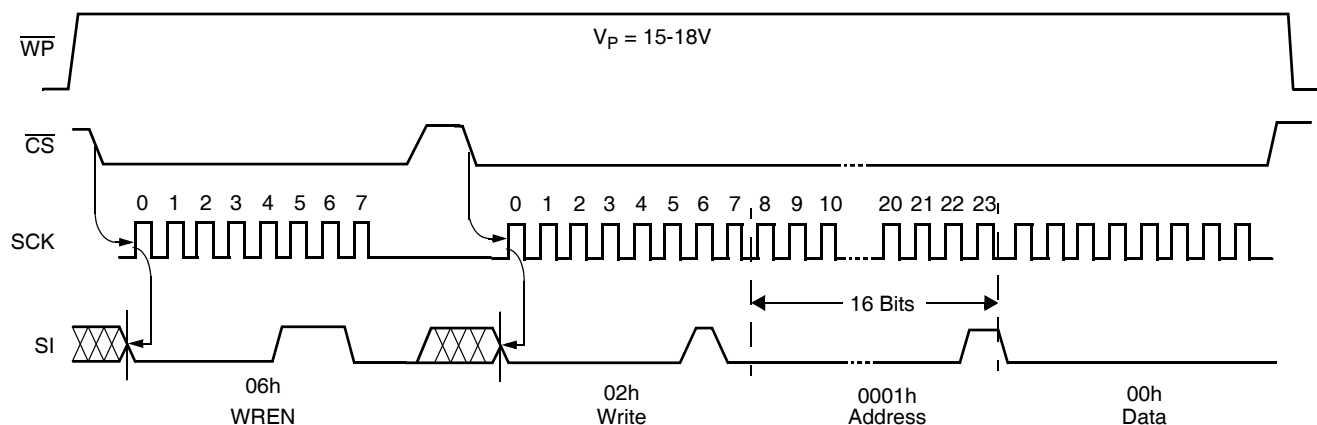

FIGURE 1. SET  $V_{TRIP}$  LEVEL SEQUENCE ( $V_{CC} = \text{DESIRED } V_{TRIP} \text{ VALUE}$ )
0000 0001	Write status instruction—followed by: Block lock/WDT byte: (See Figure 1) 000WD 1 WD 2 000 --->no block lock: 00h-00h--->none of the array 000WD 1 WD 2 001 --->block lock Q1: 0000h-00FFh--->lower quadrant (Q1) 000WD 1 WD 2 010 --->block lock Q2: 0100h-01FFh--->Q2 000WD 1 WD 2 011 --->block lock Q3: 0200h-02FFh--->Q3 000WD 1 WD 2 100 --->block lock Q4: 0300h-03FFh--->upper quadrant (Q4) 000WD 1 WD 2 101 --->block lock H1: 0000h-01FFh--->lower half of the array (H1) 000WD 1 WD 2 110 --->block lock P0: 0000h-000Fh--->lower page (P0) 000WD 1 WD 2 111 --->block lock Pn: 03F0h-03FFh--->upper page (PN)